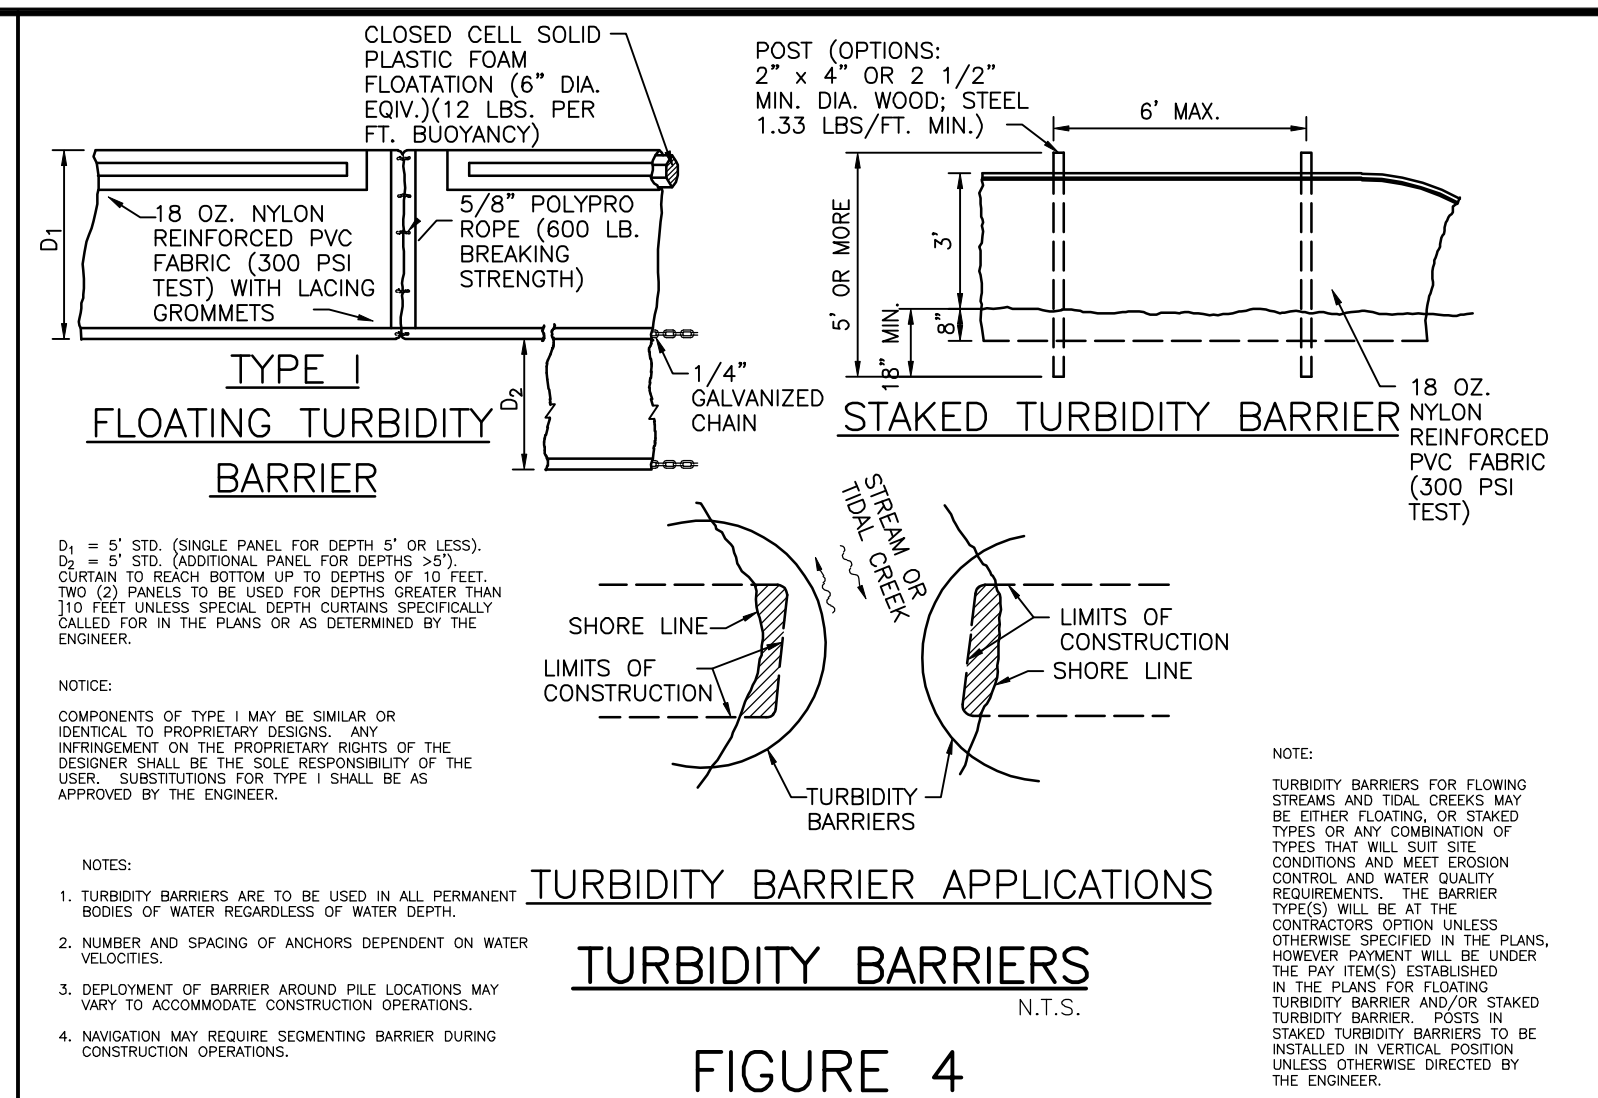

FIGURE 4
- 4 TURBIDITY BARRIERS (AS PER BEST MANAGEMENT PRACTICES DETAILS, FIGURE 4)